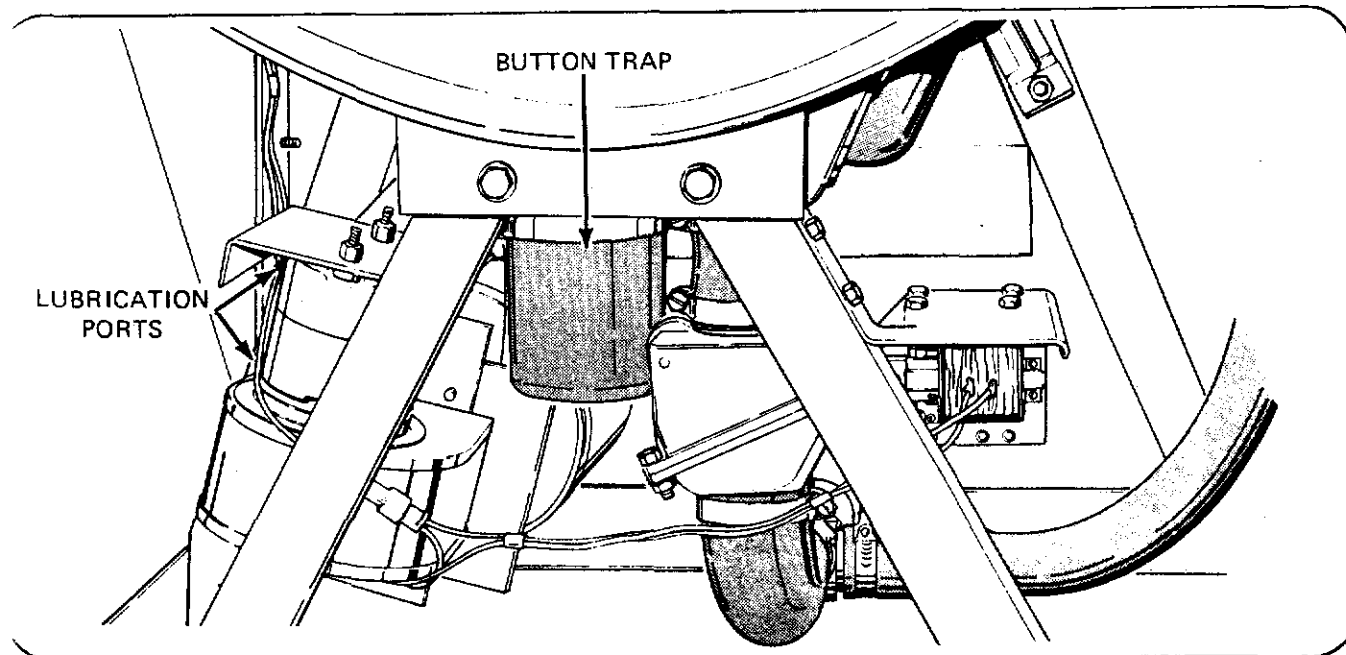

Figure 10
- b. Remove button trap and clean if necessary. *Figure 10* shows location of button trap behind air intake grille. When reinstalling button trap, be sure frame is in place and tightened securely to prevent a water leak.
- e. Lubricate blower motor with Speed Queen No. 20605 Hi-Temp Lube. (See *Figure 10* for location of lubrication ports.) Do not over-lubricate.